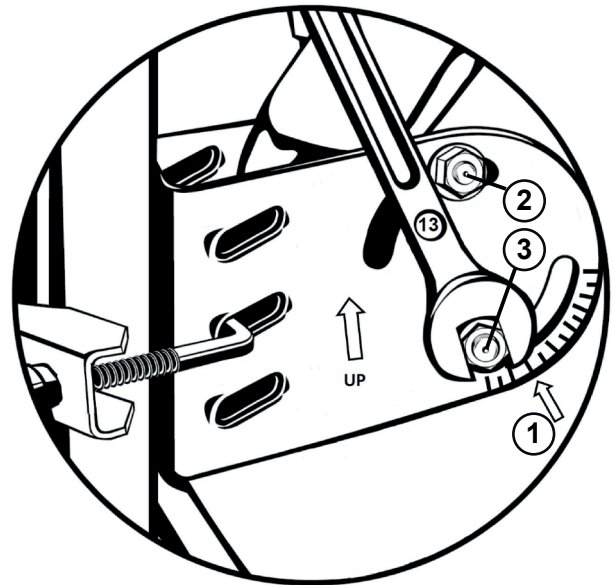

Fig. 7: Setting the Inclination (elevation)
1. When adjusting the inclination (elevation), observe the scaling on the right side of the mast fixing, as seen from behind (arrow ① in Fig. 7).
2. Loosen both screws on each side of the mast fixing to modify the elevation of the antenna (②, ③ in Fig. 7).